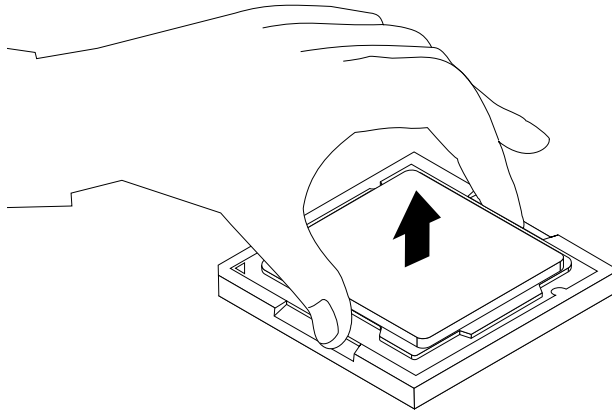

Figure 21. Removing the microprocessor
5. Lift the microprocessor straight up and out of the microprocessor socket, as shown in Figure 21 “Removing the microprocessor” on page 87.